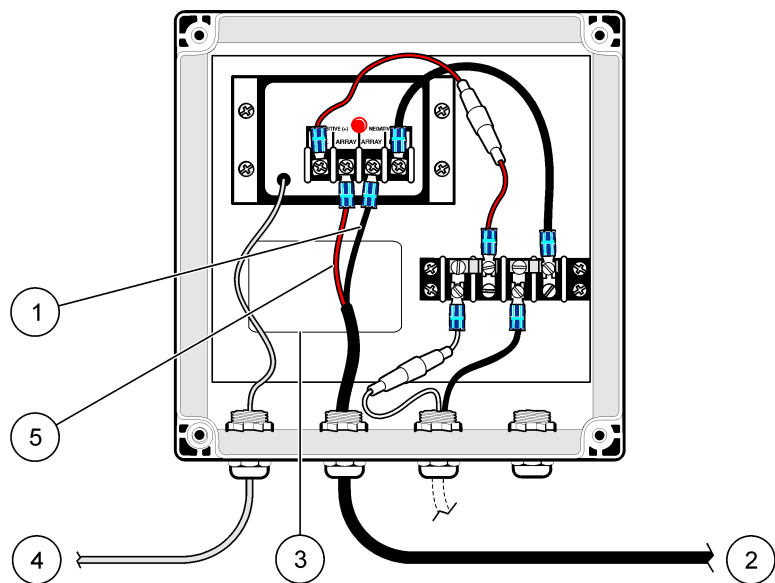

Figure 6 Wire the solar panel to the regulator
3. Connect to the screw terminals as shown in Figure 6 on page 6.
2. Wire the solar panel unit to the regulator, refer to Figure 6.
2. Wire the solar panel unit to the regulator, refer to Figure 6 on page 6.